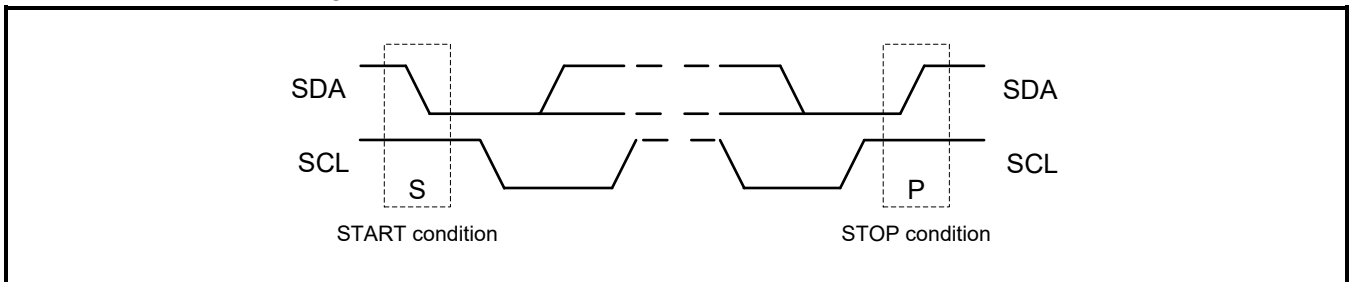

Figure 7-26 I²C Start and Stop Conditions
Both data and clock lines remain HIGH when the bus is not busy. A HIGH-to-LOW transition of the data line, while the clock is HIGH, is defined as the START condition (S). A LOW-to-HIGH transition of the data line, while the clock is HIGH, is defined as the STOP condition (P) (see **Figure 7-26 I²C Start and Stop Conditions**).